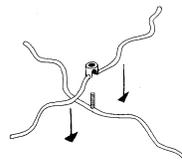

Figure 1
2. **(figure 1)** Assemble the base. The legs should form an X and fit firmly together.